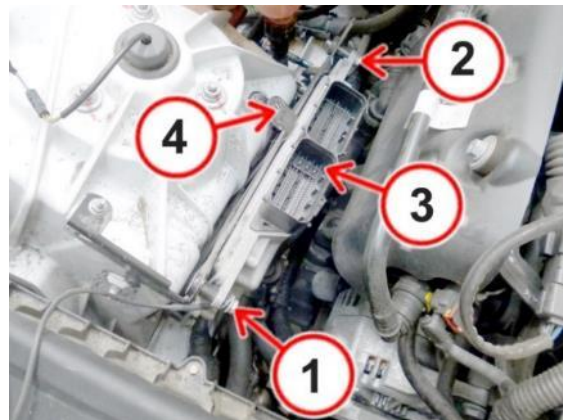

Figure 34 – PCM Control Module
44. Remove the PCM ground strap nut (1) and position the ground strap aside (Figure 34).
45. Remove the screw (2) then remove the PCM control module (3) from the support bracket (4) (Figure 34).
81. Install the PCM control module (3) to the support bracket (4) and install the screw (2). Tighten the screw to 9 N·m (80 in. lbs.) (Figure 34).
82. Connect the ground strap to the PCM and secure using the ground strap nut (1). Tighten the nut to 9 N·m (80 in. lbs.) (Figure 34).